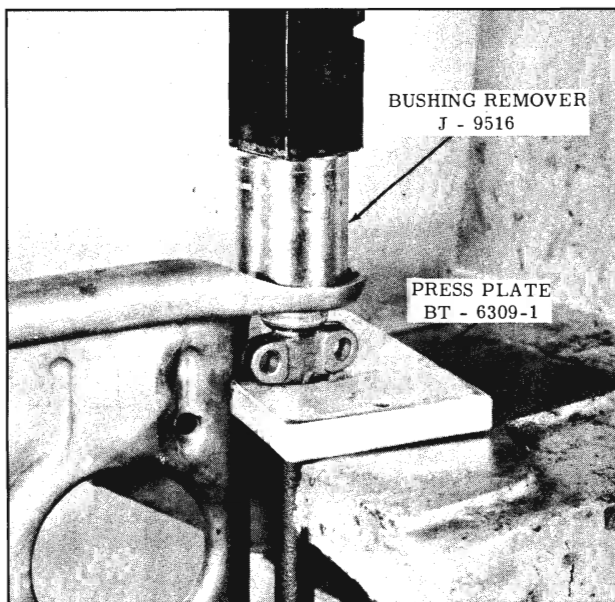

Fig. 5-23 Partial Pivot Shaft Bushing Removal
3. Place control arm assembly and tools in a press as shown in Figure 5-23 and press bushing out of control arm as far as possible.